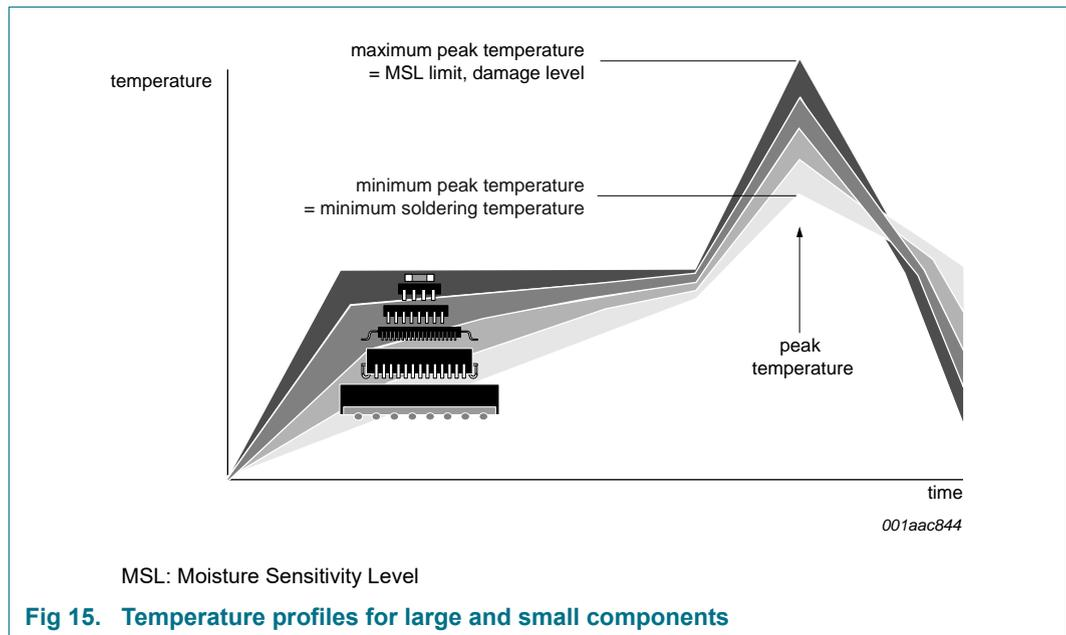

Fig 15. Temperature profiles for large and small components
- Lead-free versus SnPb soldering; note that a lead-free reflow process usually leads to higher minimum peak temperatures (see Figure 15) than a SnPb process, thus reducing the process window
Studies have shown that small packages reach higher temperatures during reflow soldering, see Figure 15.